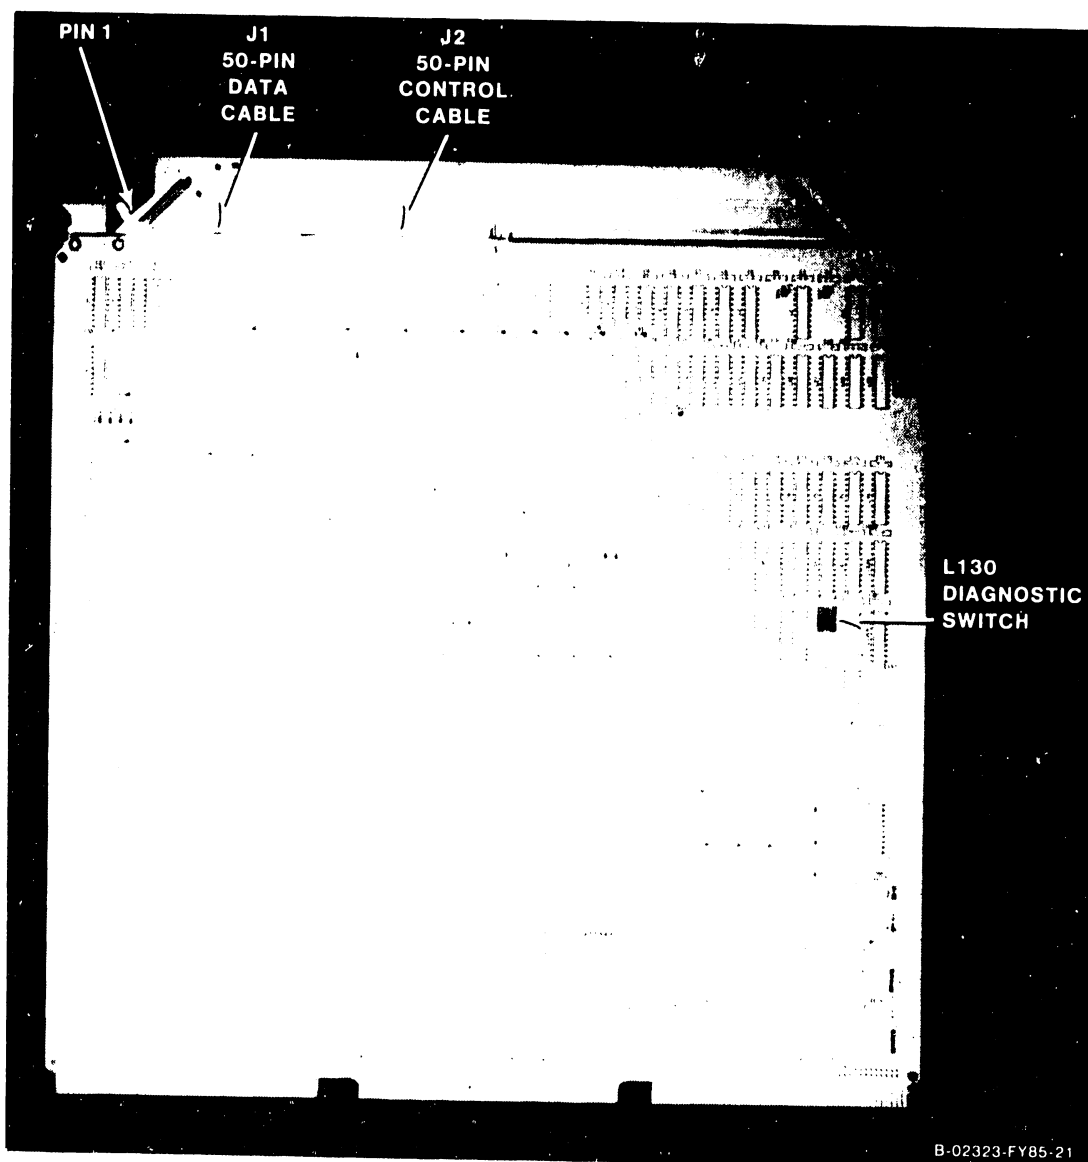

Figure 7-28. 23V95-1 Kennedy Tape IOC
1. Disconnect all cables from the top of the 23V95-1 Kennedy Tape IOC (figure 7-28). Note the position of all cables for later reassembly.